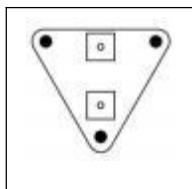

Fig.1.
- 1). Use wall panels(3) to set the required fans Position . mark three mounting holes, Drill three holes into the marked locations. Make sure your mounting area is structurally sound and free from obstruction. See the (Fig.1.)